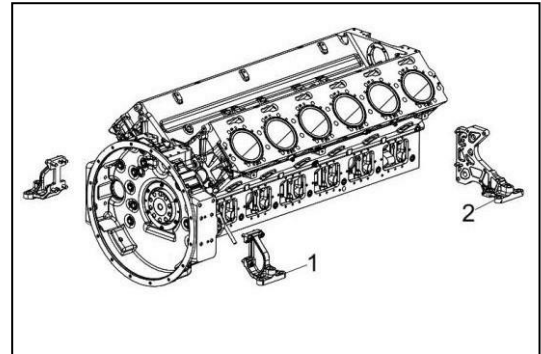

Figure 106
2. Remove the engine bracket group (Figure 106).